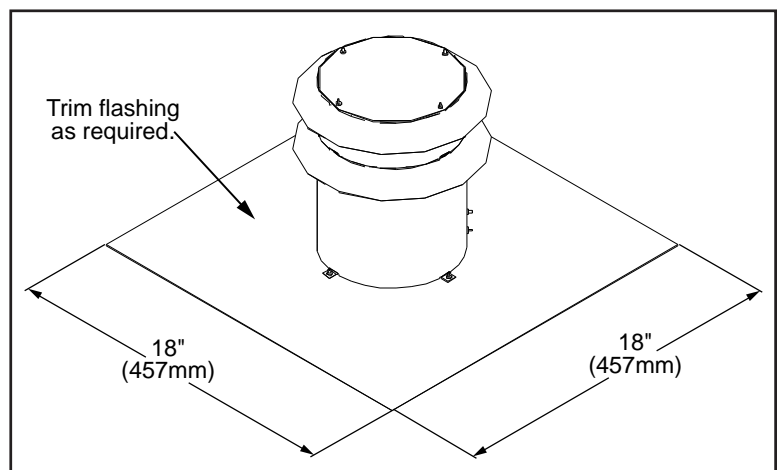

Figure 28: Vertical Vent Cap Dimensions.
4. The Vertical Vent Cap can be installed onto chimneys with flue openings up to 16" (406mm) x 16" (406mm) and the actual flashing is 18"x18" (refer to Figure 28). If the chimney is smaller the cap should be trimmed down and folded over.
5. Apply a bead of Mill-Pac Black sealant to the top section of the Ø3" (76mm) vent collar plate. Slide the Ø3" (76mm) flex vent over the flue collar and secure with three (3) sheet metal screws evenly spaced.